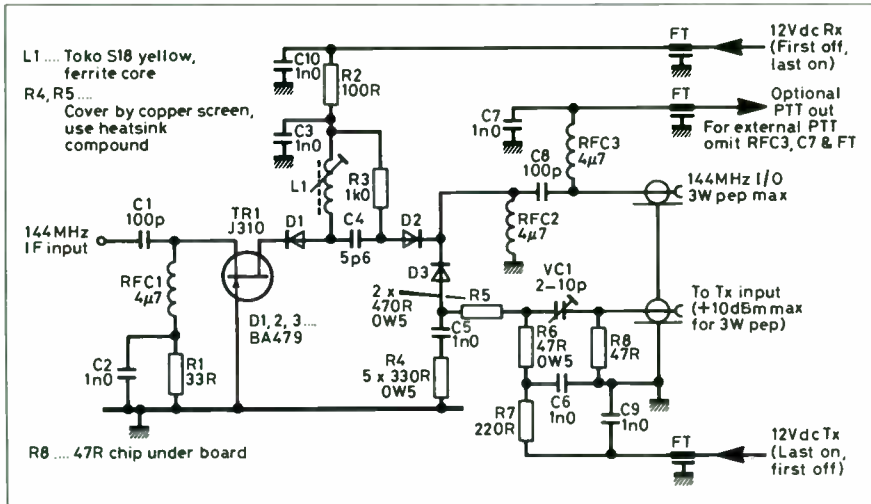

Fig 8.3. Circuit of a transverter interface for use with a low-power 144MHz transceiver, by G3SEK. Component values are given in Table 8.2
The first unit, Fig 8.3, is a low-noise 144MHz IF head
Fig 8.4. Circuit of a switching sequencer suitable for use with almost all microwave transverters and the interface circuit of Fig 8.3. Input connections on J1: (1) +V to transmit (FT290R); (2) ground; (3) 0V to transmit (IC202). Connections on J2: (1) receiver stages, +12V on receive, 0V on transmit; (2) +12V supply (input to all circuits); (3) coaxial relay, 0V on receive, 12 to 28V on transmit; (4) +12 to +28V supply (input to 3); (5) ground; (6) +12 to +28V supply (input to 7) auxiliary control, eg for power amplifier control; (7) auxiliary relay control, 0V on receive, +12 to 28V on transmit; (8) ground; (9) +12V supply (input to 10); (10) transmit stages, +12V on transmit, 0V on receive